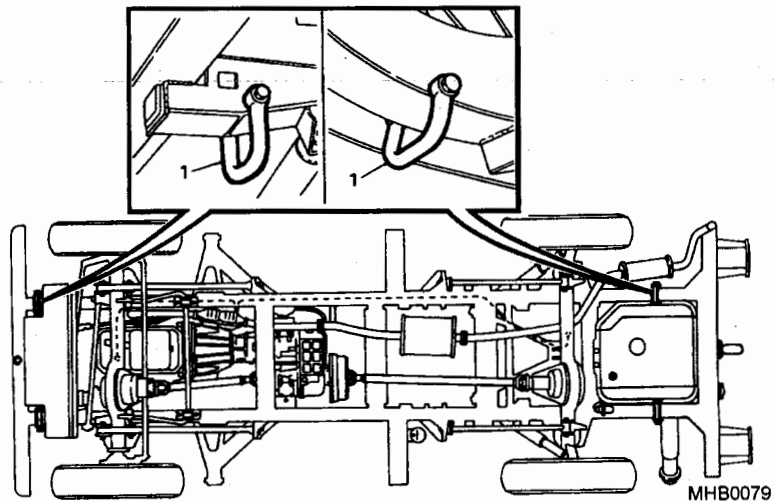

Fig 19 Lashing rings
58 Lashing rings (Fig 19 (1)) are available on the front and rear chassis members to facilitate the securing lifting and recovering of the vehicle where necessary.